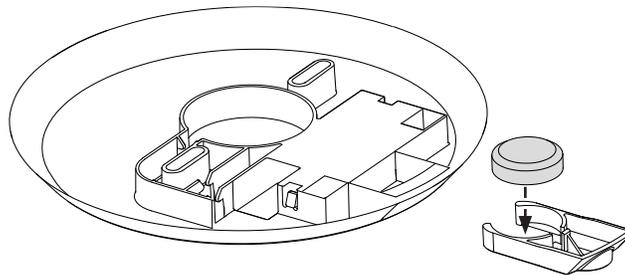

Figure 3: Battery Location
2. Observing polarity, insert a 3V lithium CR2477 battery. See Figure 3.